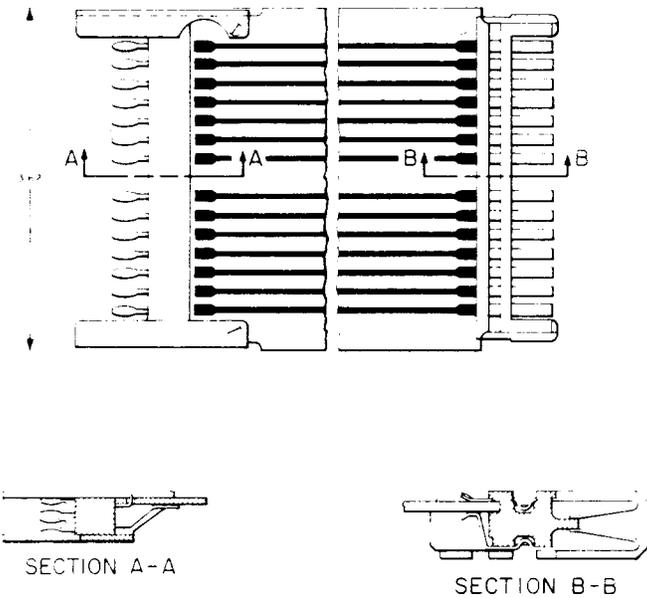

Fig. 5—727B Extender
2.13 727B: The 727B extender (Fig. 5) permits circuit packs in the No. 101 ESS switching equipment to be extended for testing purposes. This extender has 38 terminals.